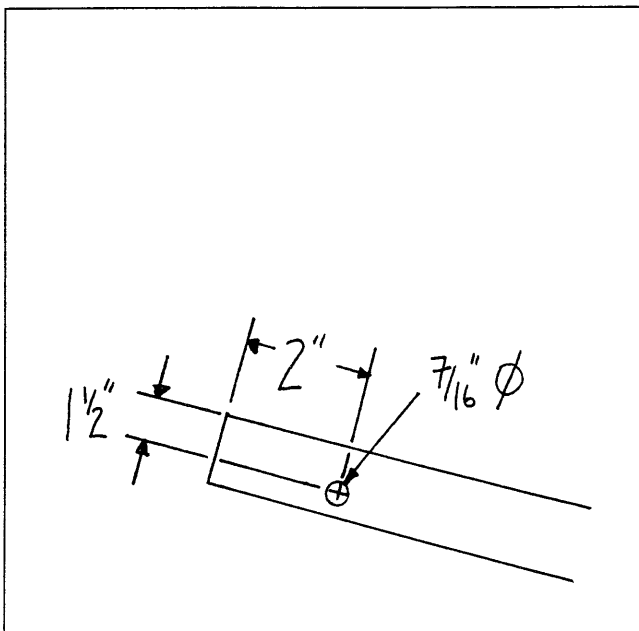

Figure 1
4. Drill a 7/16"dia. hole through the left side of the front platform as shown in figure 1.